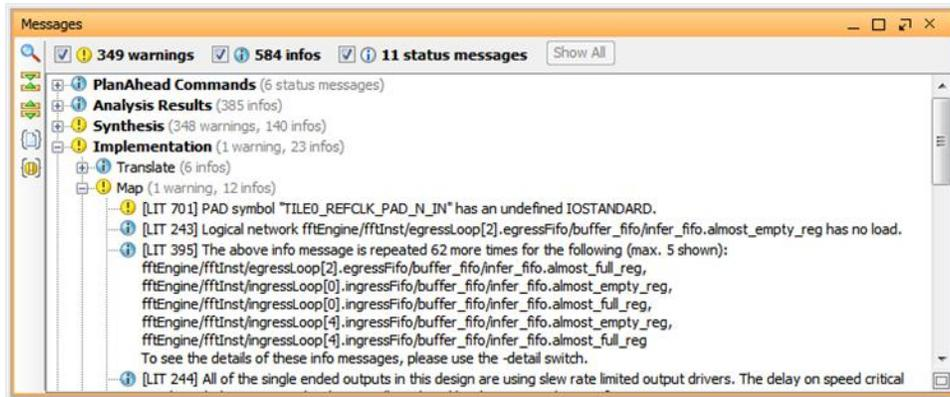

Figure 24: Implementation Messages
- Use the **Expand Map** folder to see the messages generated by this tool, as shown in FIGURE 24.